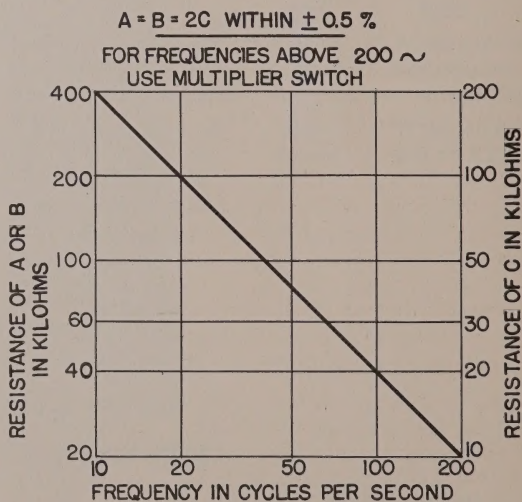

Figure 2.
2.2.2.4 Other Frequencies. Just behind the panel of the instrument, near the top, are three Type 274 jacks, labeled A, B, and C. By connecting a set of three calibrated resistors to these terminals, you can adapt the oscillator to operate at any specific frequency from 20 to 15,000 cps. The values of these resistors for any frequency may be approximated from Figure 2. Determine the exact value by scaling from any known